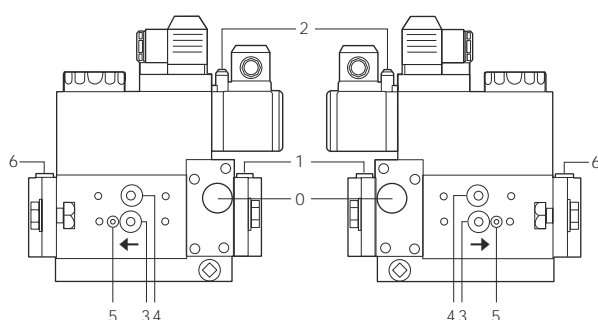
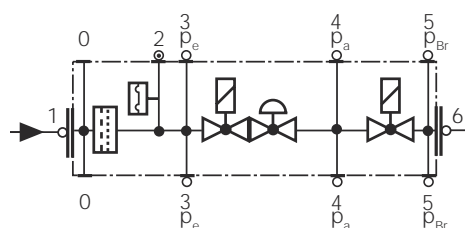

Fig. 16
Fig. 17
- Change the filter if the pressure difference between pressure connection 1 and 3 (Fig. 16-Fig. 17) is $\Delta p > 10$ mbar.
- Change the filter if the pressure difference between pressure connection 1 and 3 (Fig. 16-Fig. 17) is twice as high compared to the last check.